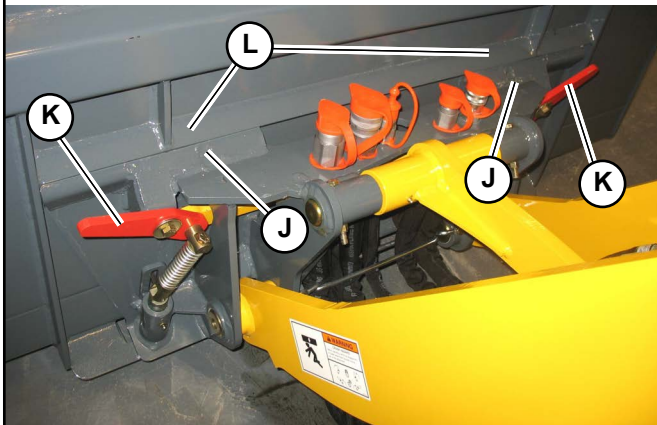

Fig. 114 – Attachment Hitch – Unlocked
4. With the engine running, press hitch and hold unlock button (H, Fig. 113) until safety flags (K, Fig. 114) have moved all the way out.
- Lower the lift structure until tabs (J, Fig. 114) on top of the attachment plate disengage out of lip (L) on the back of the attachment.